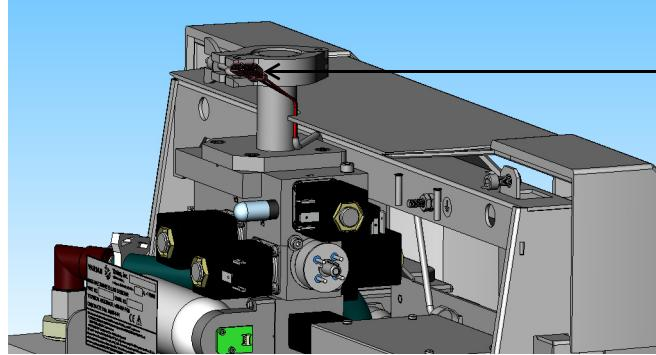

Figure 9: Front Cover Assembly
19. Carefully locate the Flapper Box Wire Harness leads between the front cover and the test port (“Figure 9: Front Cover Assembly”).